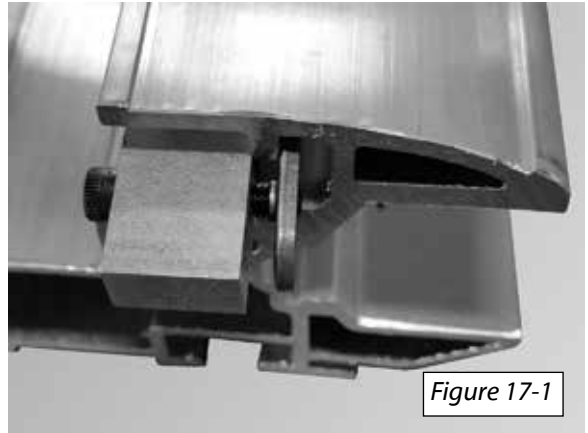

Figure 17-1
9. Insert the end stop into the gear rack channel at the lower end of the rail [Figure 17-1]. The final position of the end stop will be determined after the gear rack has been adjusted.